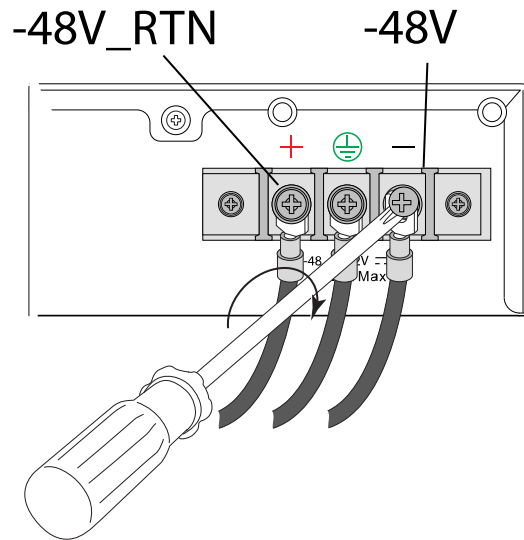

Figure 219: Connecting the DC Power Cables
- a On each terminal, loosen the screw enough to allow the spade terminal to slide underneath the captive square washer (see Figure 219: Connecting the DC Power Cables on page 253).